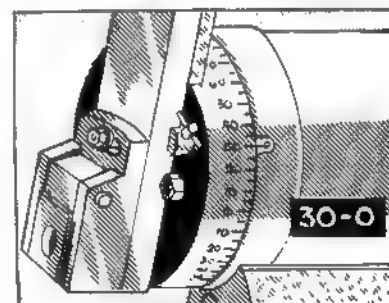

FIG. 410
5. Loosen the locking screws for the tool head, and swivel the head to the right until the 30° graduation coincides with the zero mark on the ram (Fig. 410). This will be the setting if the graduations start with a zero on the swivel head when it is in a vertical position.